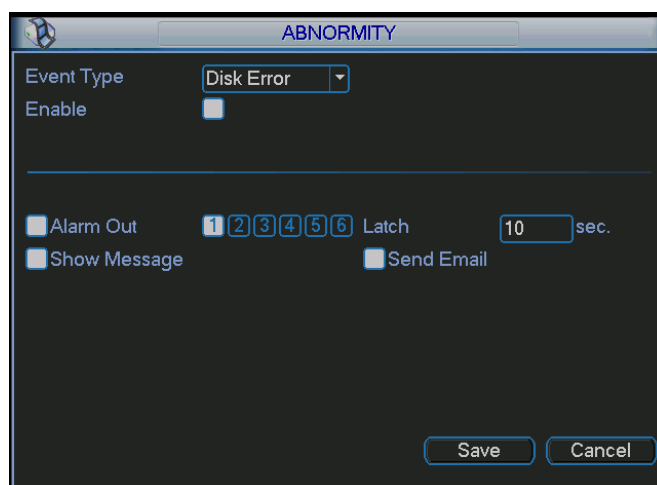

Figure 5-34
- Alarm set: Click alarm set button, the interface is shown as below. See Figure 5-34. (This interface is just like the abnormality setup). Please refer to chapter 5.5.2 for detailed information.